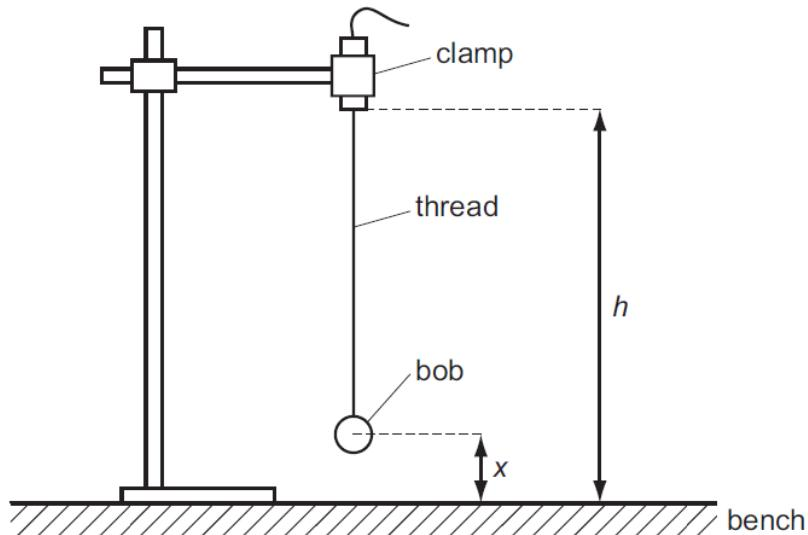

Fig. 1.1
- (a) (i) Set up the apparatus as shown in Fig. 1.1.